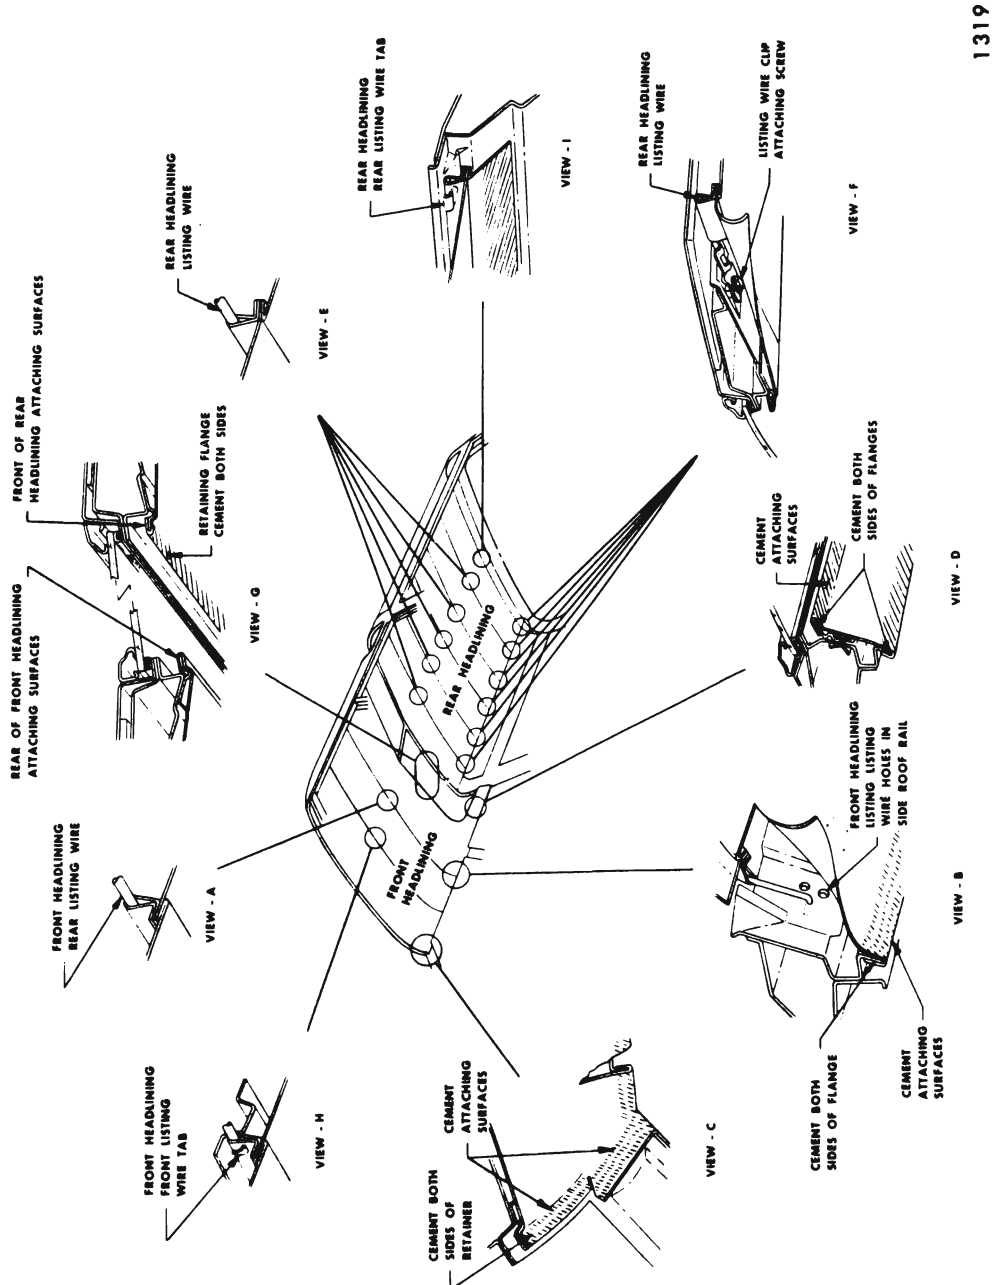

Fig. 11-7—Headlining Installation "55" and "65" Styles
The front headlining is formed to the contour of the roof panel by concealed listing wires (View "A", Fig. 11-7). The ends of the listing wires are installed into holes in the side roof inner rails (View "B"), and may be adjusted up and down or fore and aft.
The headlining material is cemented to metal retainers and side roof rail pinchweld flanges (View "B", "C" and "D", Fig. 11-7). Escutcheons, moldings, and finishing lace cover the edges and assist in holding the material in place.
The rear headlining is formed to the contour of the roof panel by concealed listing wires (View "E", Fig. 11-7). The ends of the listing wires are installed into clips which are secured to the side roof inner rails by screws (View "F", Fig. 11-7). The edges of the material are cemented to the retainer flanges (View "G", Fig. 11-7). Finishing lace and moldings cover the edges and assist in holding the material in place.
- 4. Bend down tab at front listing wire (View "H", Fig. 11-7); remove listing wires from inner rails. Gather or roll headlining with listing wires on outside to keep headlining clean and remove old headlining assembly.
- 4. Lift headlining into body, install listing wires into holes in side roof rail, center headlining to roof, hook front listing wire over tab on roof bow and bend down tab (View "H", Fig. 11-7).
- 4. Starting at front remove listing wires from roof inner rails (View "F", Fig. 11-7).
- 5. At rear listing wire bend down tab securing wire to bow (View "I", Fig. 11-7).
- 4. Lift headlining into body, install center of rear listing wire over hook at rear bow and bend over tab (View "I", Fig. 11-7).
- 5. Working forward install remainder of listing wires into clips and secure clips to roof (View "F", Fig. 11-7).